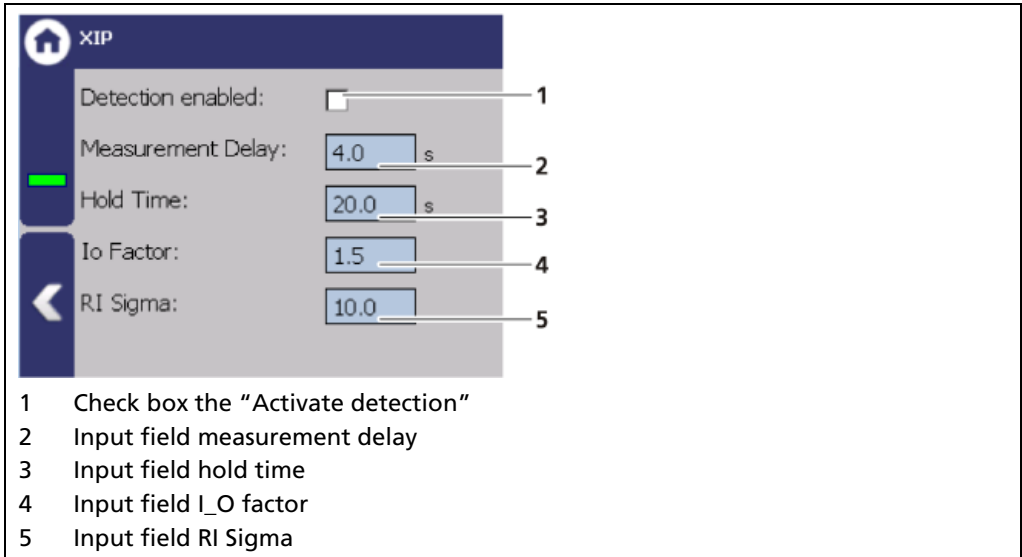

Fig. 91 XIP
Radiation interference is X-ray or gamma radiation from any source other than the one intended for the measurement. Radiation interference can cause process value falsification. To protect the measurement from radiation interfenrece the function XIP can be activated. Rapid and strong count rate increases are considered in this cause. If the detection is activated (Fig. 91, item 1), the last valid process value is frozen during the event of radiation interference. Once no more radiation interference is detected, the value is released again.